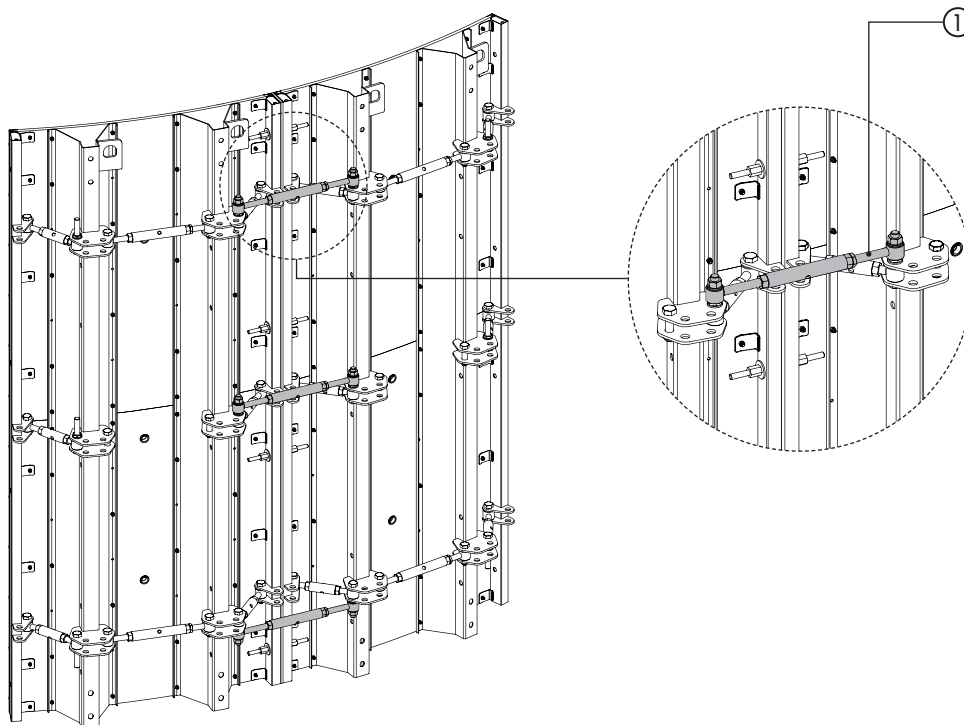

Fig. 18
- It is possible to stiffen the connection between adjacent CIRCA-FLEX panels applying an additional lateral turnbuckle as displayed in the Fig. 18.